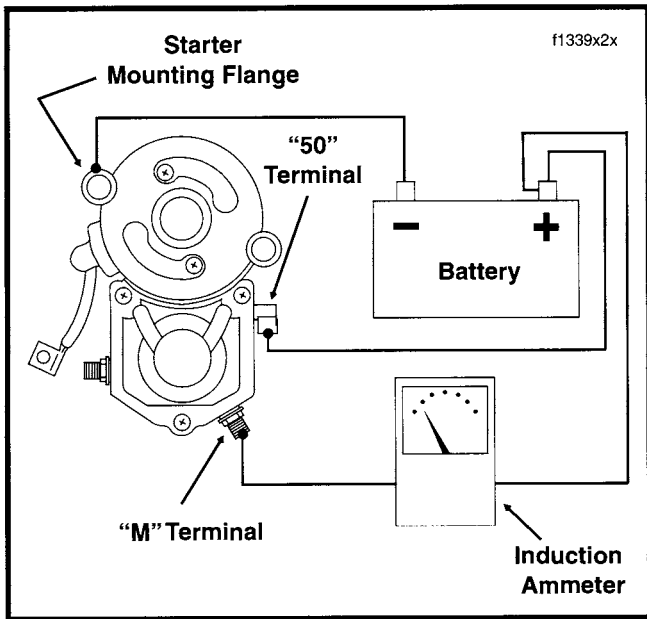

Figure 67. Free Running Current Draw Test
5. Attach an inductive ammeter to positive cable and connect the other end of the positive cable to the "M" terminal of the starter solenoid. See Figure 67.